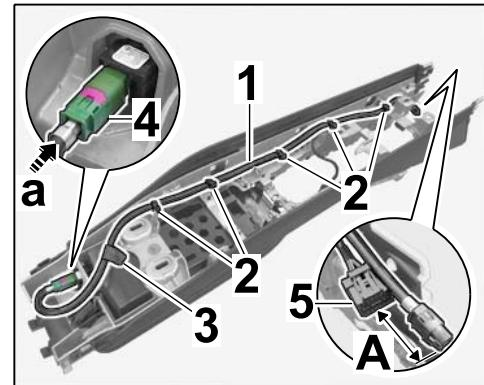

Figure 12
3.4 Connect electric plug connection \Rightarrow Figure 12-4- (\Rightarrow Figure 12-a-).
It must project \Rightarrow Figure 12-A- by approx. 40 mm on the standard connector \Rightarrow Figure 12-5-.